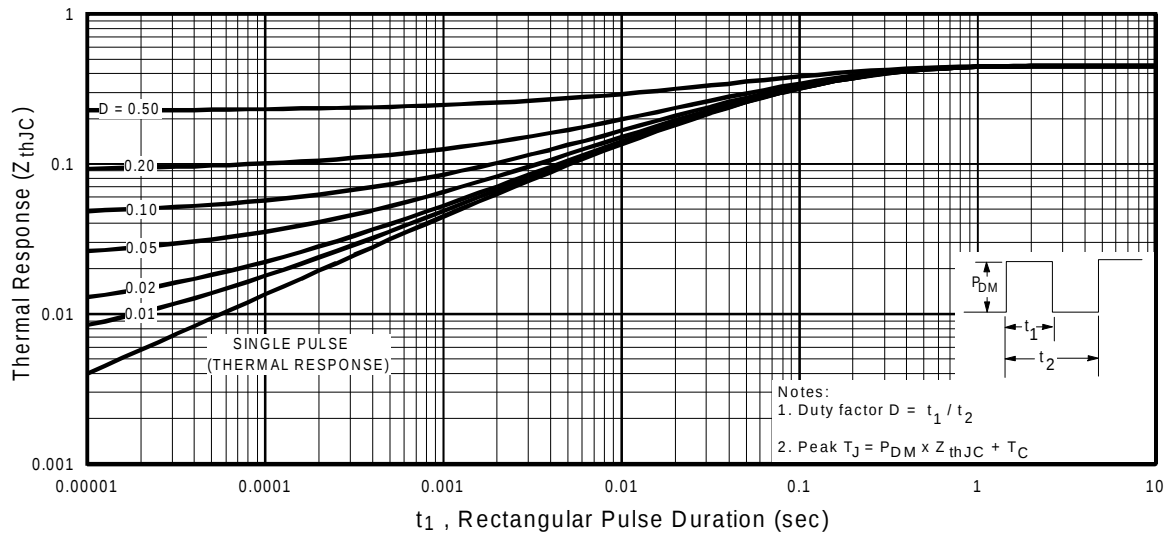

Fig 11. Maximum Effective Transient Thermal Impedance, Junction-to-Case
① Repetitive rating; pulse width limited by max. junction temperature. (See fig. 11)
③ $I_{SD} \leq 20A, di/dt \leq 160A/\mu s, V_{DD} \leq V_{(BR)DSS}, T_J \leq 150^\circ\text{C}$
② $V_{DD} = 25V$, starting $T_J = 25^\circ\text{C}$, $L = 4.3mH$